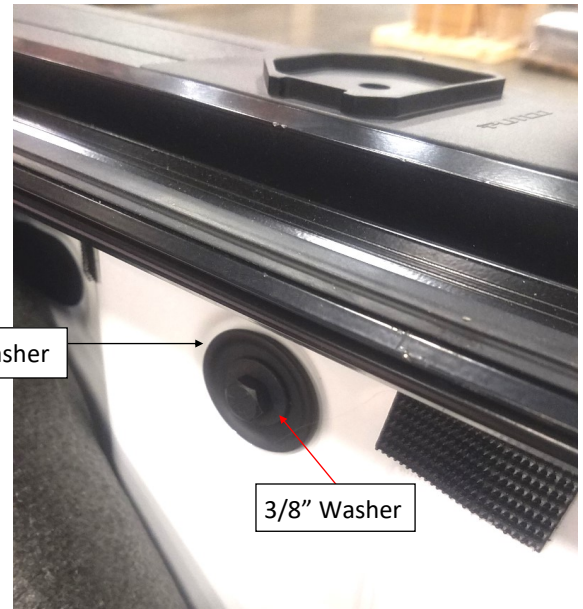

Figure 3: Washers and 3/8" bolt threaded into bracket (GM truck shown).
4. Loosely thread 3/8" bolt with washers through bed wall into bracket. Temporarily remove 3.25" bolt from top of bracket (**Figure 3**).